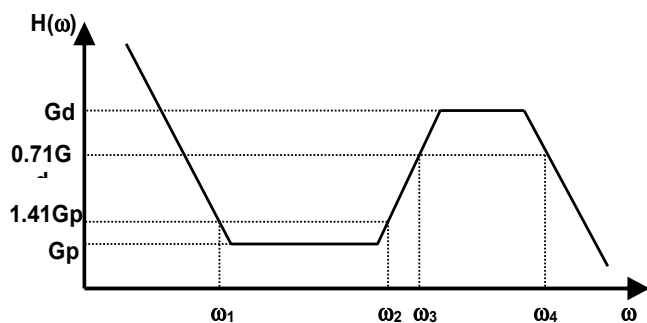

Figure 27. Transfer Function of the Compensation Network
The transfer function of the compensation network, defined as $H(\omega) = \text{IDR}(\omega) / \text{TMS}(\omega)$, is shown in Figure 27.
- $C_D \times R_I$ determines the corner frequency, $\omega_2 = 1/(C_D \times R_I)$, where the differential component starts picking up (see Figure 27), as the frequency goes up.